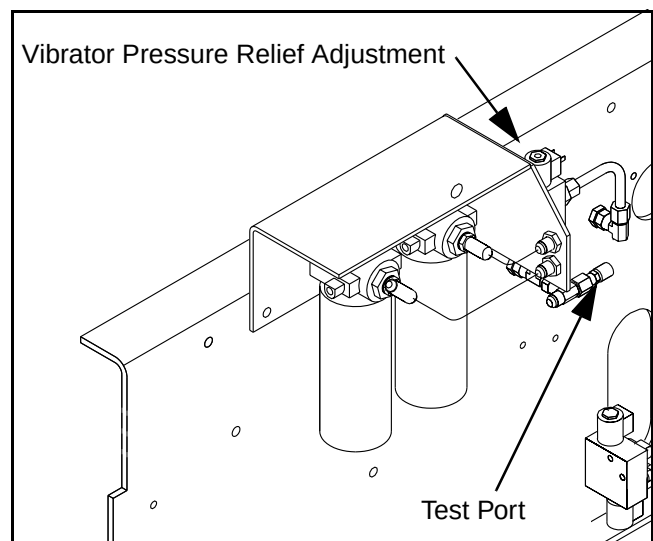

Figure 5 - 37 Remix Vibrator Pressure Test Port
- 2) Install a 3000 PSI pressure gauge to the test port on the vibrator solenoid valve. (Figure 5 - 37)